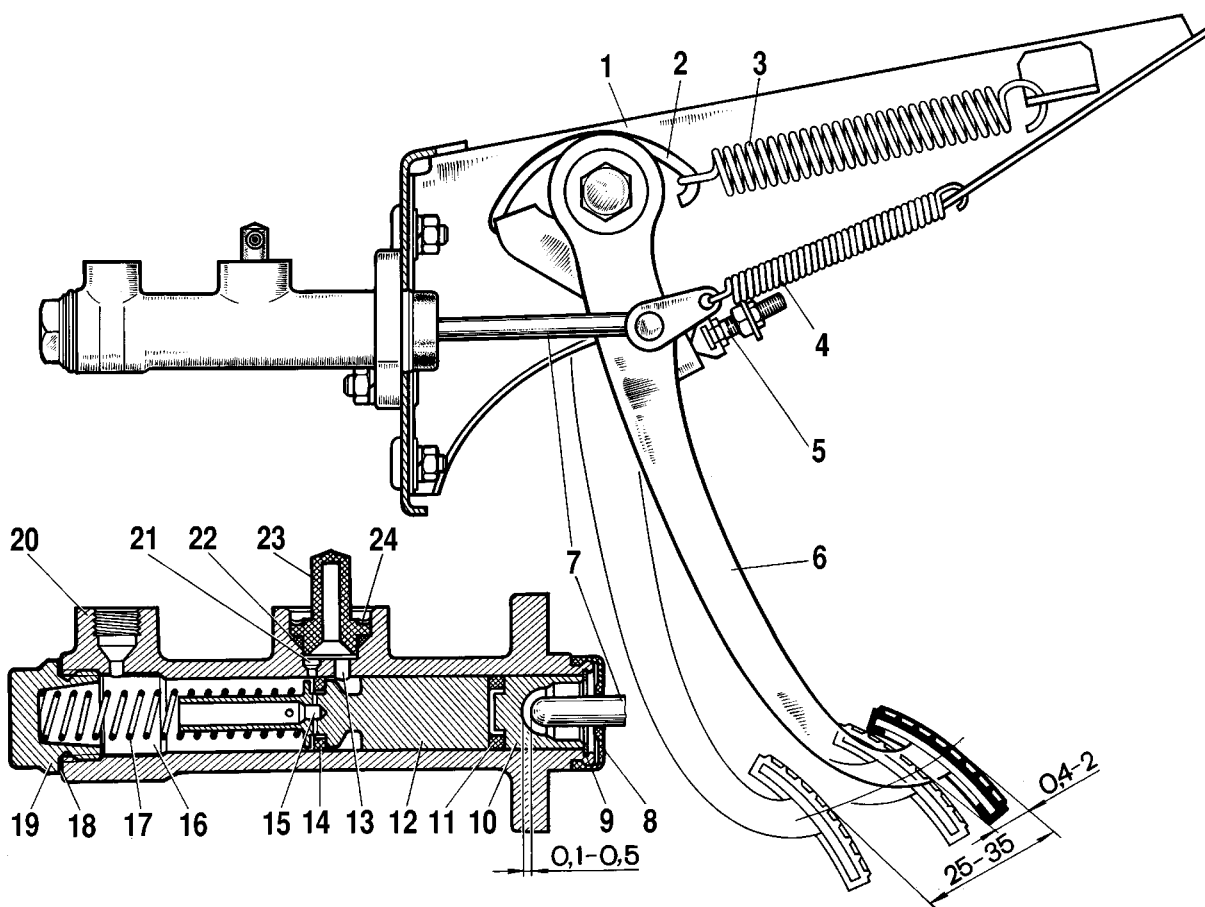

Fig. 3-2. Clutch pedal and master cylinder:
- the 0.1-0.5 mm gap between the pushrod and the piston of the master cylinder (see fig. 3-2) is set. This gap, necessary for complete clutch release, is adjusted by the clutch pedal limiter bolt 5. The clearance is determined by the pedal free travel equal to 0.4-2 mm;